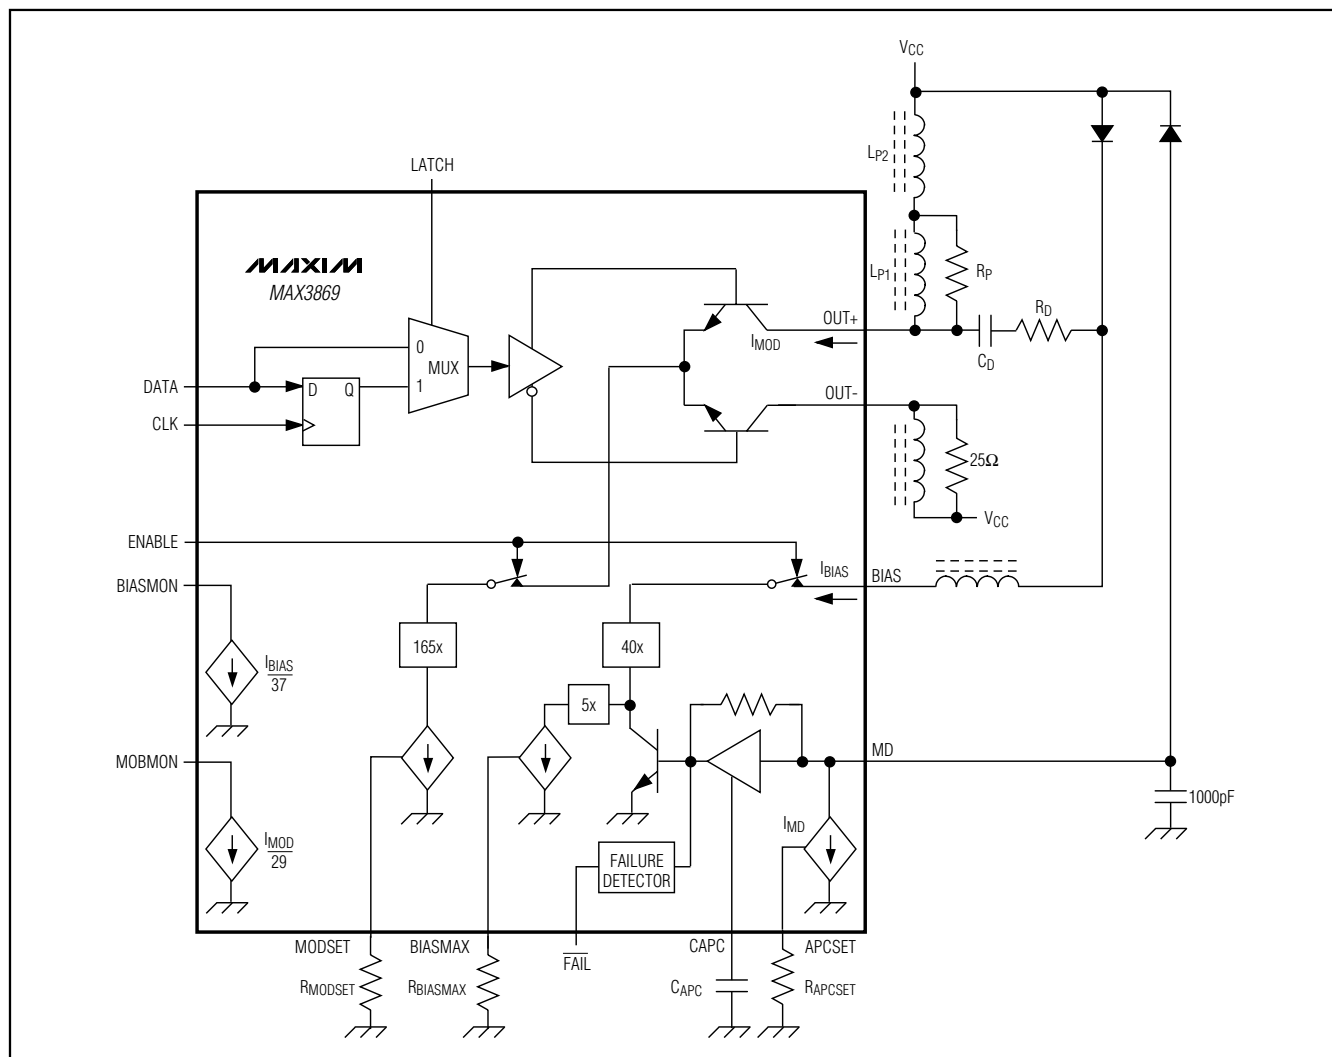

Figure 4. Functional Diagram
allows the output at OUT+ to swing above and below the supply voltage VCC. A simplified functional diagram is shown in Figure 4.
To minimize optical output aberrations caused by signal reflections at the electrical interface to the laser diode, a series damping resistor (RD) is required (Figure 4). Additionally, the MAX3869 outputs are optimized for a 25 $\Omega$  load. Therefore, the series combination of RD and RL (where RL represents the laser-diode resistance)